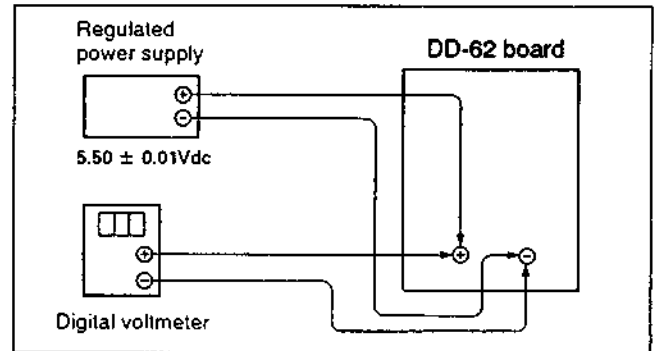

Fig. 7-37.
- 1) Connect the regulated power supply and the digital voltmeter as shown in Fig. 7-37.